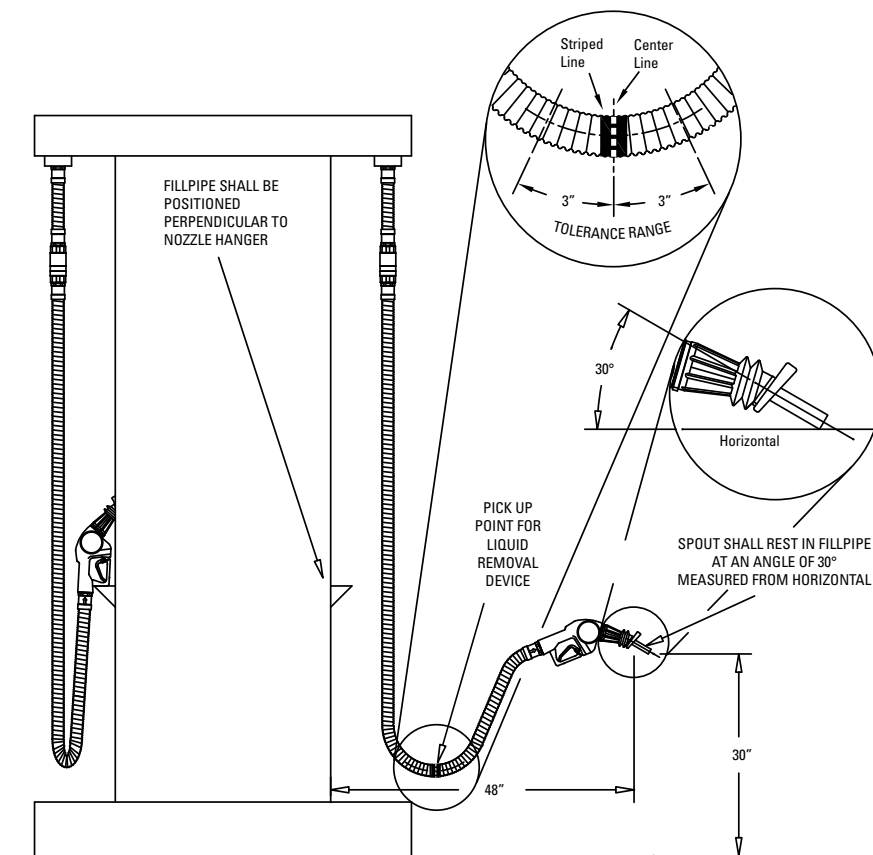

Figure 2. Procedure For Positioning the Liquid Removal Device
This procedure must be followed to insure proper positioning for the liquid-removal device in Part Number Series: VDV-EVR and VDVP-EVR (See Figure 2).
2. When the hose and nozzle are held in position as shown in Figure 2, the factory installed liquid-removal device indicator-mark (striped line) on the vapor hose must be located: